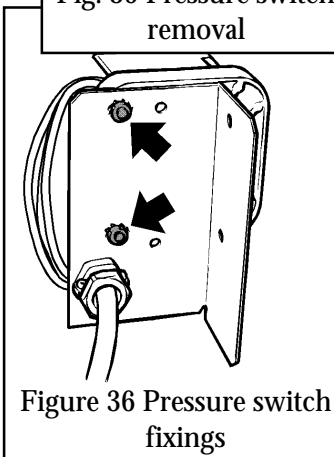

Figure 36 Pressure switch fixings
13.11.2 Detach the pressure switch from the control bracket by removing two screws, nuts and shakeproof washers (see figure 36).